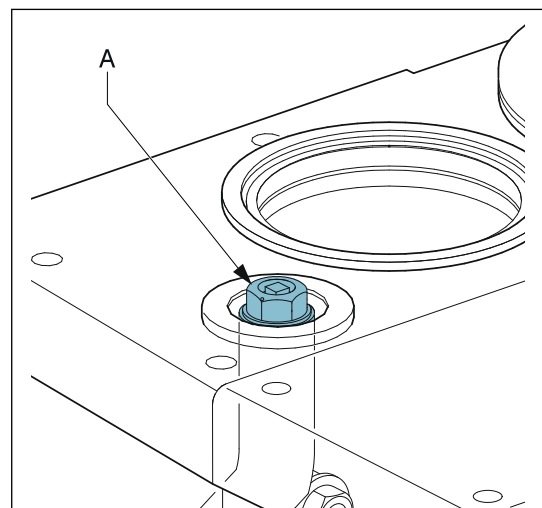

Figure 29 Manual air vent
1. Fill entire heating system with water to reach appliance operating pressure (see section 1.4.1.4) and purge air from appliance using the manual air vent (A) as shown in Figure 29. Alternatively, an automatic air vent can be mounted on the appliance instead of the manual air vent. Water should be of suitable quality. Do not use water with high hardness.